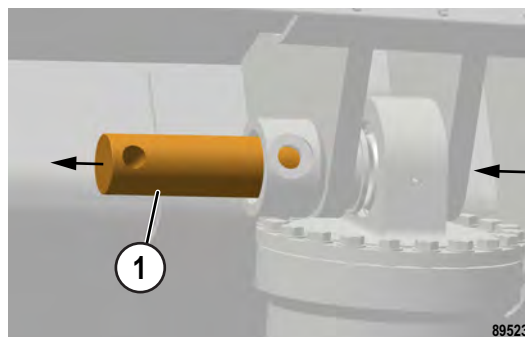

FIGURE 50-44. PIVOT PIN REMOVAL
9. Use a brass drift and hammer to drive pivot pin (1, Figure 50-44) from the upper pivot structure. **Make sure that the pin is supported during removal.**